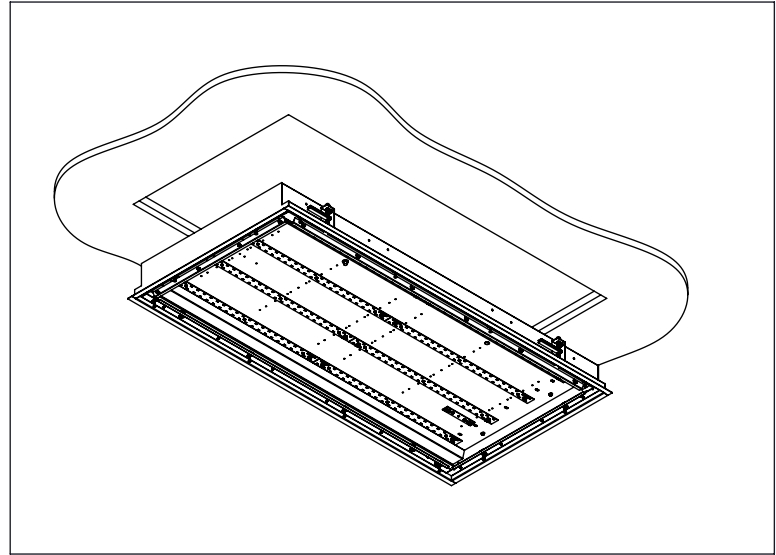

Figure 2
2. Raise housing into ceiling (Fig. 2).